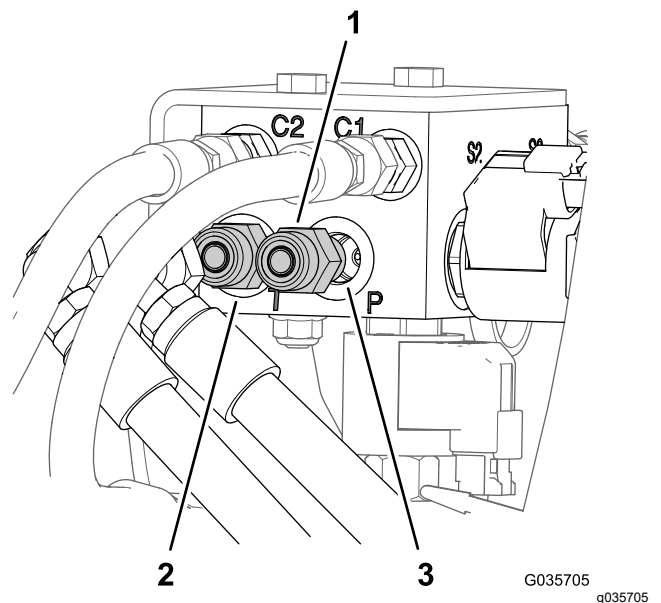

Figure 9
1. At the back of the sprayer, label the hoses at port-P and port-T of the lift-cylinder manifold (Figure 9).
2. Remove the hoses from the straight-hydraulic fittings at port-P and port-T of the lift-cylinder manifold (Figure 9).
3. Remove the straight-hydraulic fittings from port-P and port-T of the old lift-cylinder manifold (Figure 9).